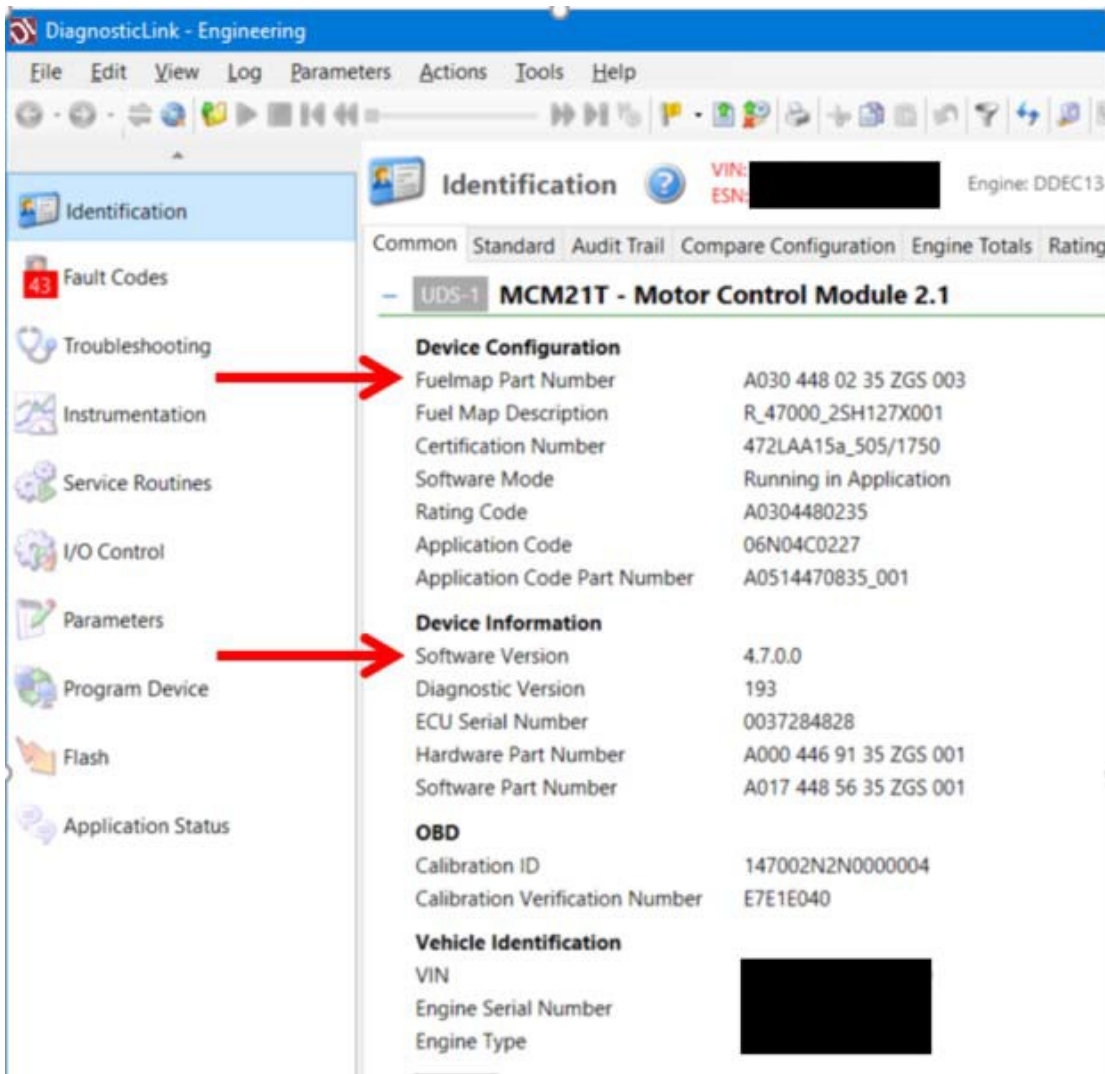

Figure 1 – DiagnosticLink® Identification Screen
5. On the Identification screen, check the current MCM, ACM, CPC, and if applicable, the TCM, software. Listed below are the **MINIMUM** levels required. See Figure 1 for an example of the Identification screen.
6. Is the **software** level for all modules less than, equal to, or higher than the software levels listed in step 5? For example in Figure 1, MCM software 4.7.0.0 with ZGS 003, is equal to required software of 4.7.0.0, but less than the required ZGS 005.